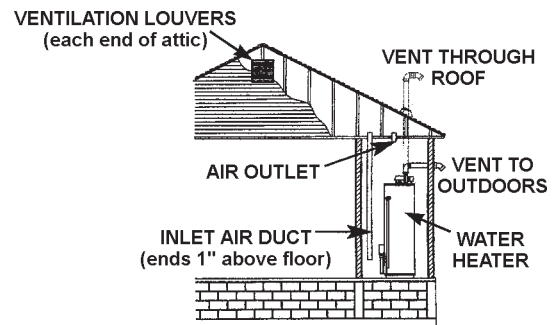

FIGURE 13.
2. When communicating with the outdoors through vertical ducts, each opening shall have a minimum free area of 1 square inch per 4,000 Btu per hour (5.5 cm²/kW) of total input rating of all equipment in the enclosure, see Figure 13.